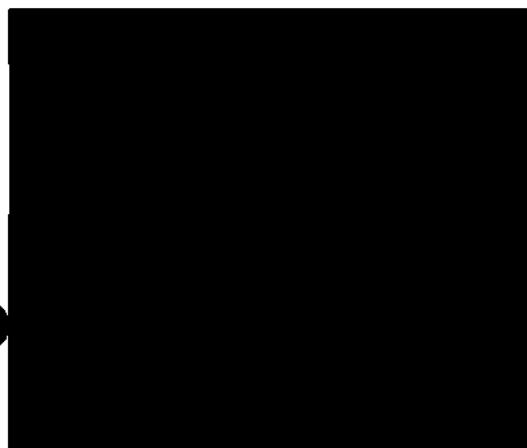

Figure 24. Change Password
5. Press **Select** to select **NEW PASSWORD =**. An OSD keyboard appears below the **CHANGE PASSWORD** menu (Figure 24).